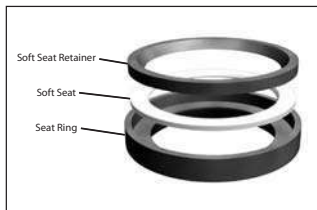

Figure 4: Soft Seat Assembly
- 6.5. Valves with soft seats (see figure 4) require the seat ring to be inspected and possibly disassembled. Check to see that seating surfaces on the plug and seat assemblies are free of damage. If the seat insert is worn, remove it from the assembly. Since the plug